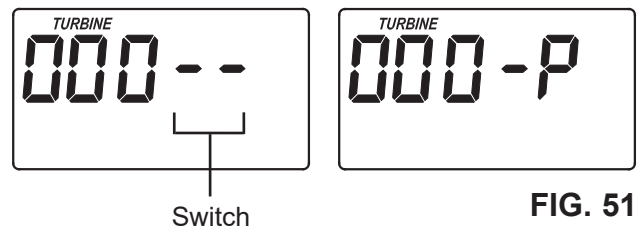

FIG. 51
1. Press and hold for 3 seconds the SELECT button, until one of the screens shown in Figure 51 is displayed.